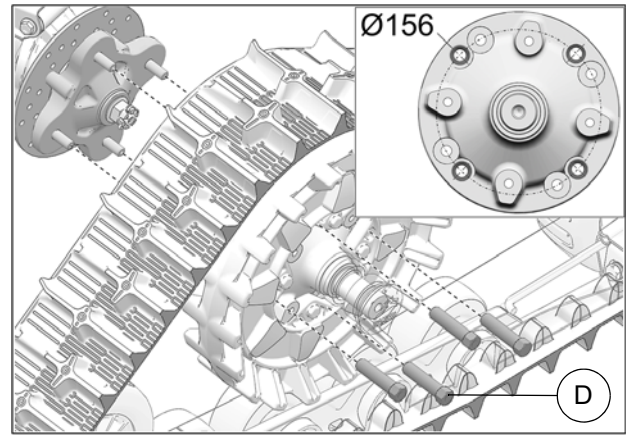

Fig. 18
9. Secure undercarriage to rear hub using the provided M12 lug nuts (D). Use bolt circle Ø156 mm. See Fig. 18